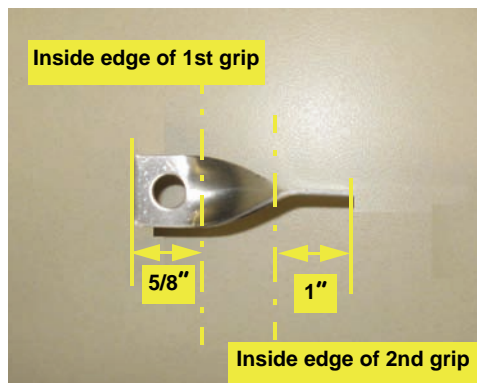

Figure 1d: Twisted bracket (not to scale)
- The inside edge of your second grip is 1 " from the recently cut end (Figure 1d - not to scale).